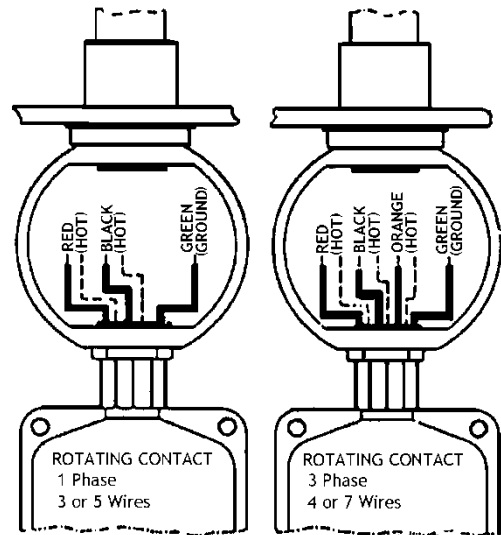

Fig. 39 – Rotating contact wiring
- 111 Have electrician use liquid-tight elbow and drip loop to bring electrical service into cast electric junction box on center hanger. Wire to leads of rotating contact. See Fig. 39. Also see wiring diagrams on Pages 48-59.